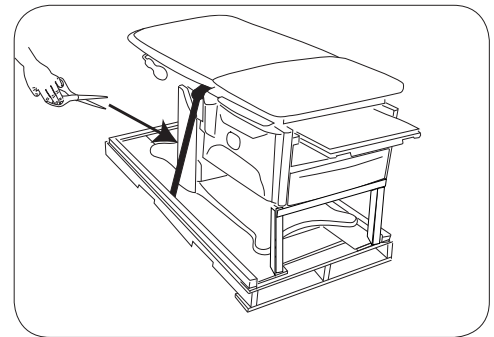

Figure 4. Cut Shipping Strap
4. Cut the shipping strap, and discard strap and foam tube (Figure 4).